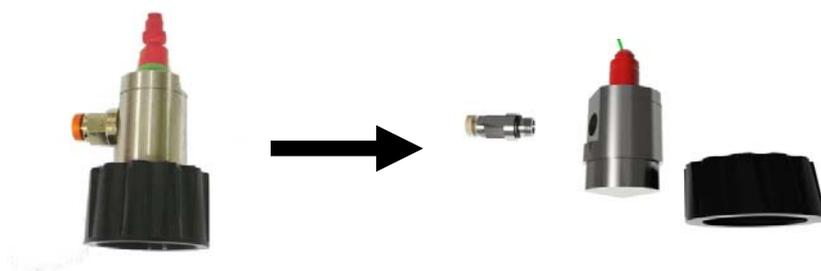

Figure 34. Nebulizer preparation for cleaning
- e) Remove the gas inlet quick fitting and the black plastic nut to avoid damaging the seals with the cleaning solvent (Figure 34).